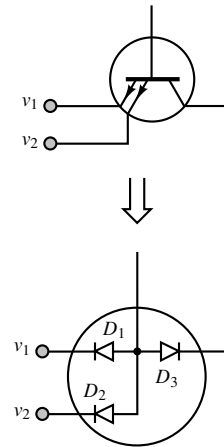

Figure 10.34
Analysis: The inputs to the TTL gate, v_1 and v_2 , are applied to the emitter of transistor Q_1 . The transistor is designed so as to have two emitter circuits in parallel. Transistor Q_1 is modeled by the offset diode model, as shown in Figure 10.34. We now consider each of the four cases.
- $v_1 = 5 \text{ V}$; $v_2 = 0 \text{ V}$. Now, with reference to Figure 10.34, we see that diode D_1 is still forward-biased, but D_2 is now reverse-biased because of the 5-V potential at v_2 . Since one of the two emitter branches is capable of conducting, base current will flow and Q_1 will be on. The remainder of the analysis is the same as in case 1, and Q_2 and Q_3 will both be off, leading to $v_{\text{out}} = 5 \text{ V}$.